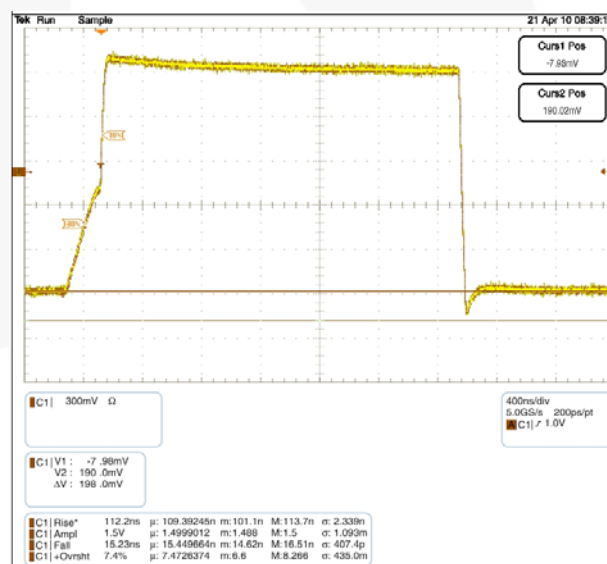

Figure 5. FXMA2102 Waveform C: 600pF, RPU: 2.2K
ports until either of the port's V_{CC}/2 thresholds are reached. After the RC time constant has reached the V_{CC}/2 threshold of either port, the port's edge detector triggers both dynamic drivers to drive their respective ports in the LOW-to-HIGH (LH) direction, accelerating the rising edge. The resulting rise time resembles the scope shot in Figure 5. Effectively, two distinct slew rates appear in rise time. The first slew rate (slower) is the RC time constant of the bus. The second slew rate (much faster) is the dynamic driver accelerating the edge.
The FXMA2102 dynamic drivers have enough current sourcing capability to drive a 400pF capacitive bus. This is beneficial for instances when an I²C buffer / repeater is required. The I²C specification stipulates a maximum bus capacitance of 400pF. If an I²C segment exceeds 400pF, an I²C buffer / repeater is required to split the segment into two segments, each of which is less than 400pF. Figure 5 is a scope shot of an FXMA2102 driving a lumped load of 600pF. Notice the (30% - 70%) rise time is only 112ns ($R_{PU} = 2.2K$). This is well below the maximum edge rate of 300ns. Not only does the FXMA2102 drive 400pF, but it also provides excellent headroom below the I²C specification maximum edge rate of 300ns.